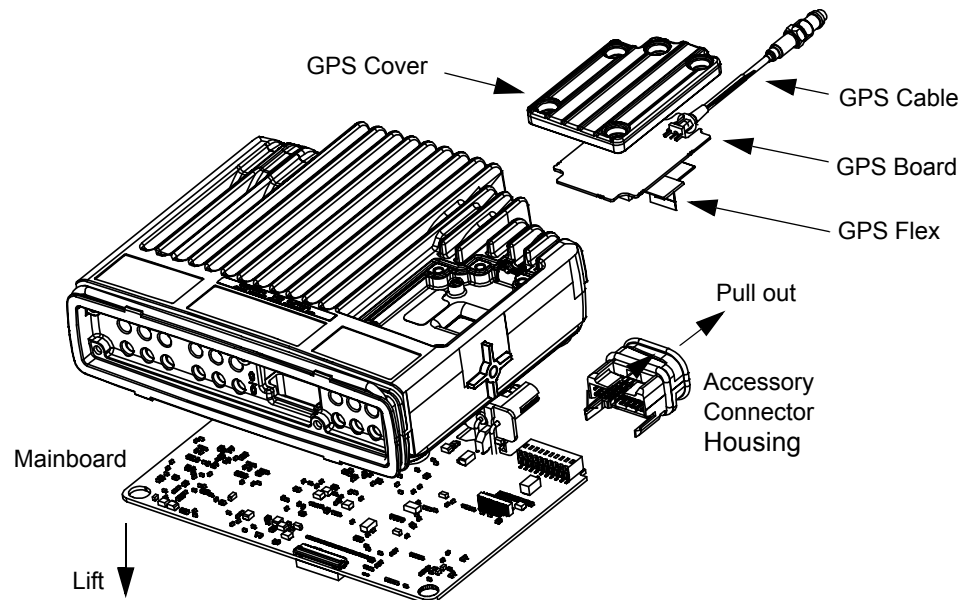

Figure 6-5 GPS and Mainboard Removal (view from bottom side)
5. Slowly lift the transceiver board on the edge at the front of the terminal (the edge that mates with the Enhanced Control Head) and pull gently toward the front of the terminal as shown in Figure 6-5. Take care to slide the antenna connector and power connector out of the chassis towards the front.